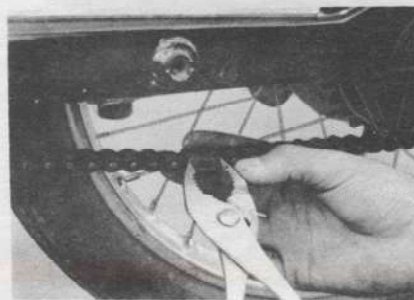

Fig. 3-10
8. Remove the chain case, disconnect the master link, and remove the chain. (Figs. 3-10 & 3-11)